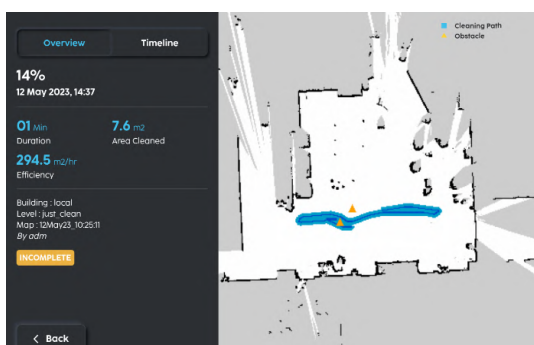

FIGURE 7-17
4. Tap on an individual cleaning report to see the details of that cleaning mission (**Fig. 7-17**).